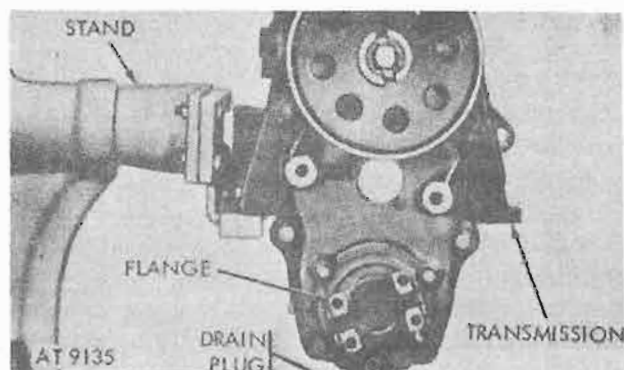

Figure 8-2. Transmission mounted on fixture stand.
b. Mount transmission on holding fixture and secure stand in bench vise. Drain lubricant from transmission (fig. 8-2).